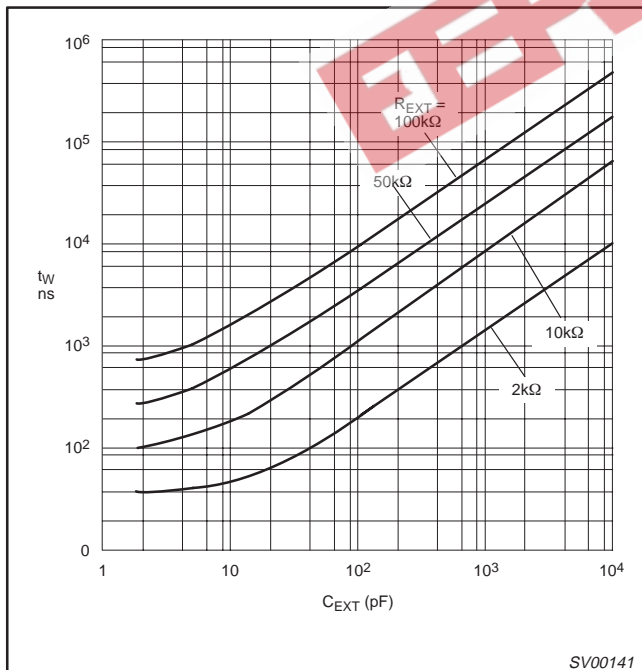

Figure 6. Typical output pulse width as a function of the external capacitor values at $V_{CC} = 3.3\text{V}$ and $T_{amb} = 25^\circ\text{C}$.
| R _{EXT} | External timing resistor | Figure 6 | V _{CC} (V) | | | | | | kΩ |
| C _{EXT} | External timing capacitor | Figure 6 ³ | 2.0 | No limits | | | | | pF |
- For other R_{EXT} and C_{EXT} combinations see Figure 6.